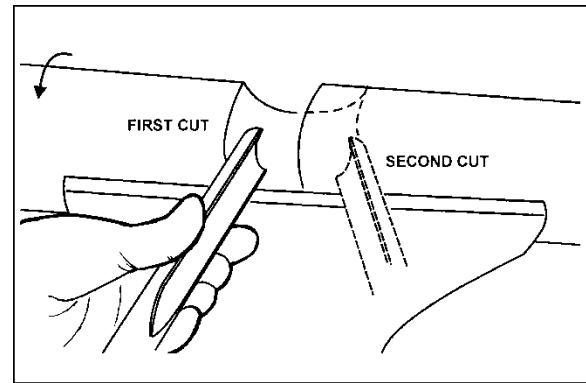

Figure 24
1. Use a spindle gouge. With the flute of the tool at 90 degrees to the workpiece, touch the point of the tool to the workpiece and roll in towards the bottom of the cove. See Figure 24. **Stop at the bottom; attempting to go up the opposite side may cause the tool to catch.**